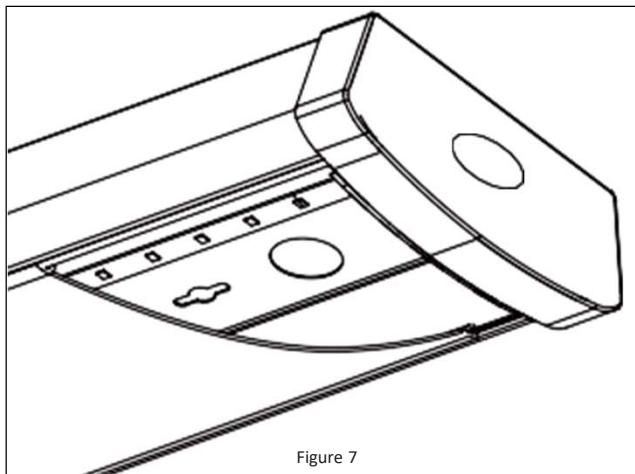

Figure 7
7. Install the diffuser (B)- starting at one end of fixture base (A), insert diffuser slot onto edge of luminaire housing. Carefully squeeze diffuser to engage opposite side with luminaire housing. Continue this action down the length of diffuser until fully installed onto fixture base. **See Figure 7.**